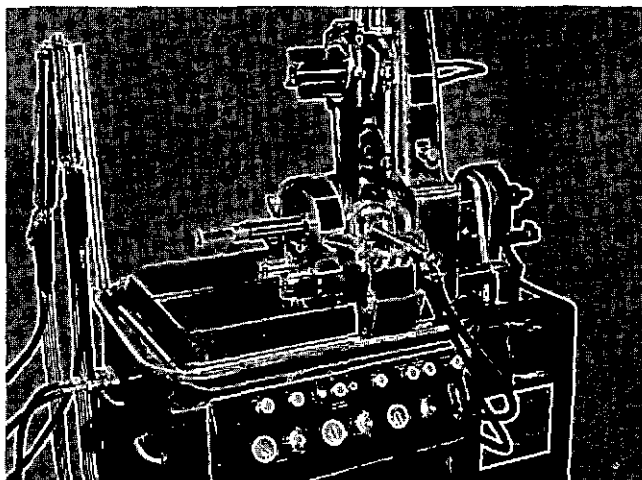

Fig. 1-8-9, V40116. Boring piston pin bushing
2. Mount connecting rod in ST-526 Tobin-Arp Boring Machine. Fig. 1-8-9.